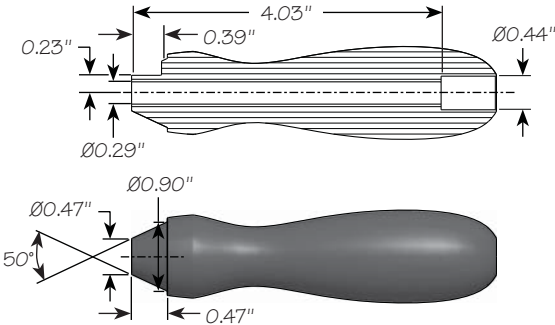

Figure 3: Handle template.
While the handle shape has been carefully developed to offer the best comfort level, we recognize that every woodworker has a preferred handle type. You may want to modify the existing handle, or make your own from scratch. You can make your handle any size or shape that fits your hand; however, keep in mind the dimensions for the tapered tenon, the depth of the counterbore for the handle nut and the notch in the tapered tenon (see **Figure 3**) to ensure your handle will fit properly into the spine socket.
1. The taper angle on the tenon is sized to fit into the spine, so it needs to be accurately created; however, the tenon itself can be a little larger in diameter than the dimensions shown in **Figure 3**.
2. The hole diameter for the handle nut needs to be as shown in **Figure 3**, while the depth of the hole for the handle stud can be slightly deeper than the 4.03" shown (such that the counterbore for the handle nut is slightly shallow to start with).